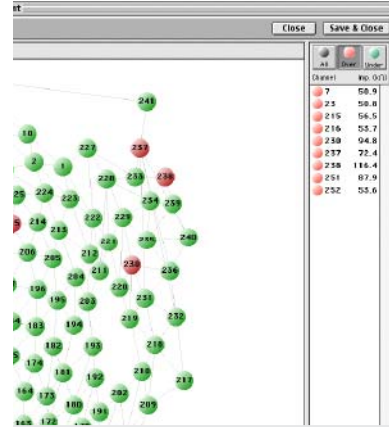

Figure D-12. Detail of the Impedance Measurement window
- 3 In the Impedance Measurement window (Figure D-12), note any sensors that are not making good contact and manipulating the sensors to achieve better contact. Notice the progress bar at the bottom of the window, which begins a new scan automatically as soon as the current scan is done.